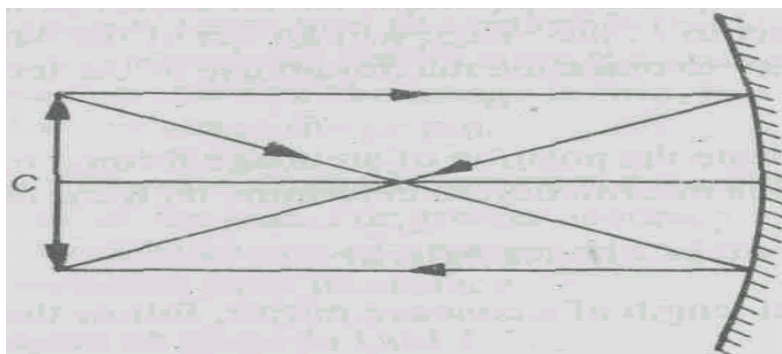

Fig.4.4 Ray diagram for image formed by a concave mirror when the object is at  $C$
6. You should now look for an inverted image. Once you observe it, remove the parallax between the object pin and its image by moving the object pin backward or forward, Note the position of the pin in no-parallax condition. This gives you  $v$ . Record it also in the Observation Table. We expect that the value of  $v$  will be equal to the value of  $u$ . The ray diagram for this configuration is shown in Fig.4.4.